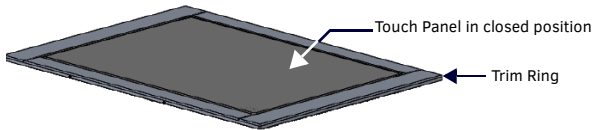

FIG. 4 HPX TOUCH INSTALLED IN THE MOUNTING SURFACE CUTOUT
- Slide the HPX-MSP-7 into the cutout. Make sure that the top of the unit is level and nearly flush with the top of the mounting surface (FIG. 4):